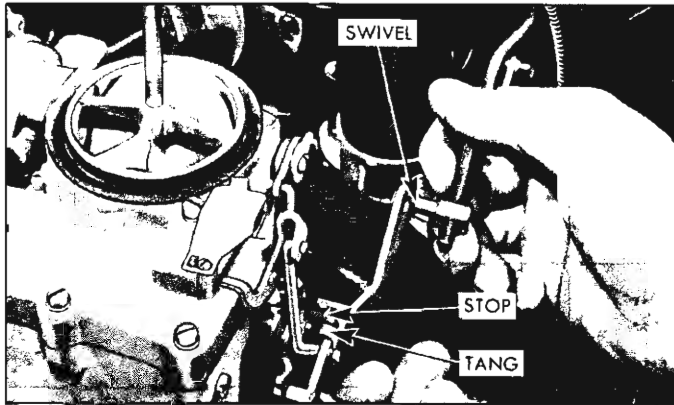

Fig. 14—Adjusting Throttle Linkage—V-8 Two-Barrel
- **Throttle Linkage Adjustment**—Depress accelerator pedal to floor and check to see that throttle lever stop tang (fig. 14) contacts stop on throttle
body (throttle valves wide open). If contact is not made, disconnect throttle rod from carburetor, depress accelerator pedal to floor and, while holding throttle valves wide open (fig. 14), adjust throttle rod swivel until pin enters throttle lever freely, then secure pin.
accelerator pedal to floor and, while holding throttle valves wide open, adjust throttle rod swivel until pin enters throttle lever freely, then secure pin (see Figure 14).